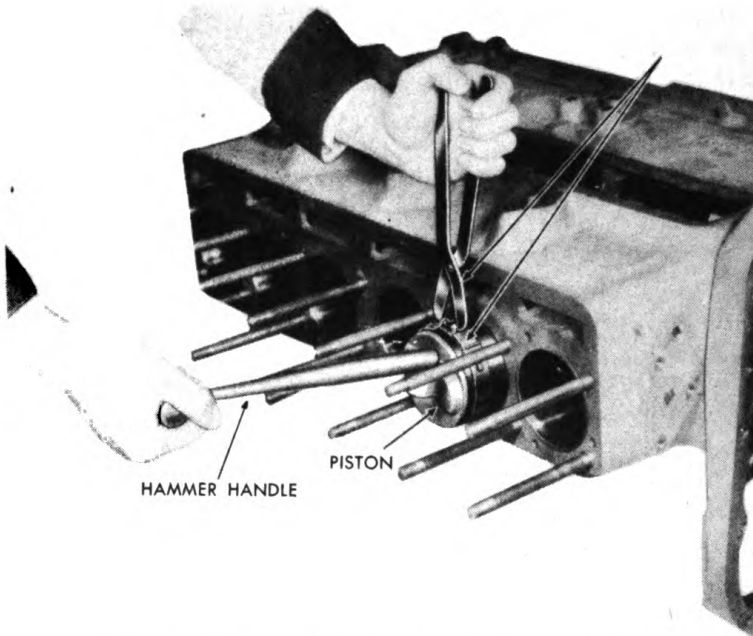

Figure 180. Compressing rings to install piston.
13. To install the piston and connecting rods into their respective cylinders, the arrow on the top of the piston should point to the injector side of the crankcase. Place a ring compressor over the rings as shown in Figure 180. Make certain that the rings are wholly in their grooves before tightening the compressor a little bit at a time, pausing to push the compressor side ways to be sure that the rings are free. Compress as much as possible. A pilot tool, or wooden guide, shown in Figure 134, should be placed over the upper connecting rod bolt to guide the rod into place without marring the bearing surfaces of the crankshaft. Be sure to oil piston.